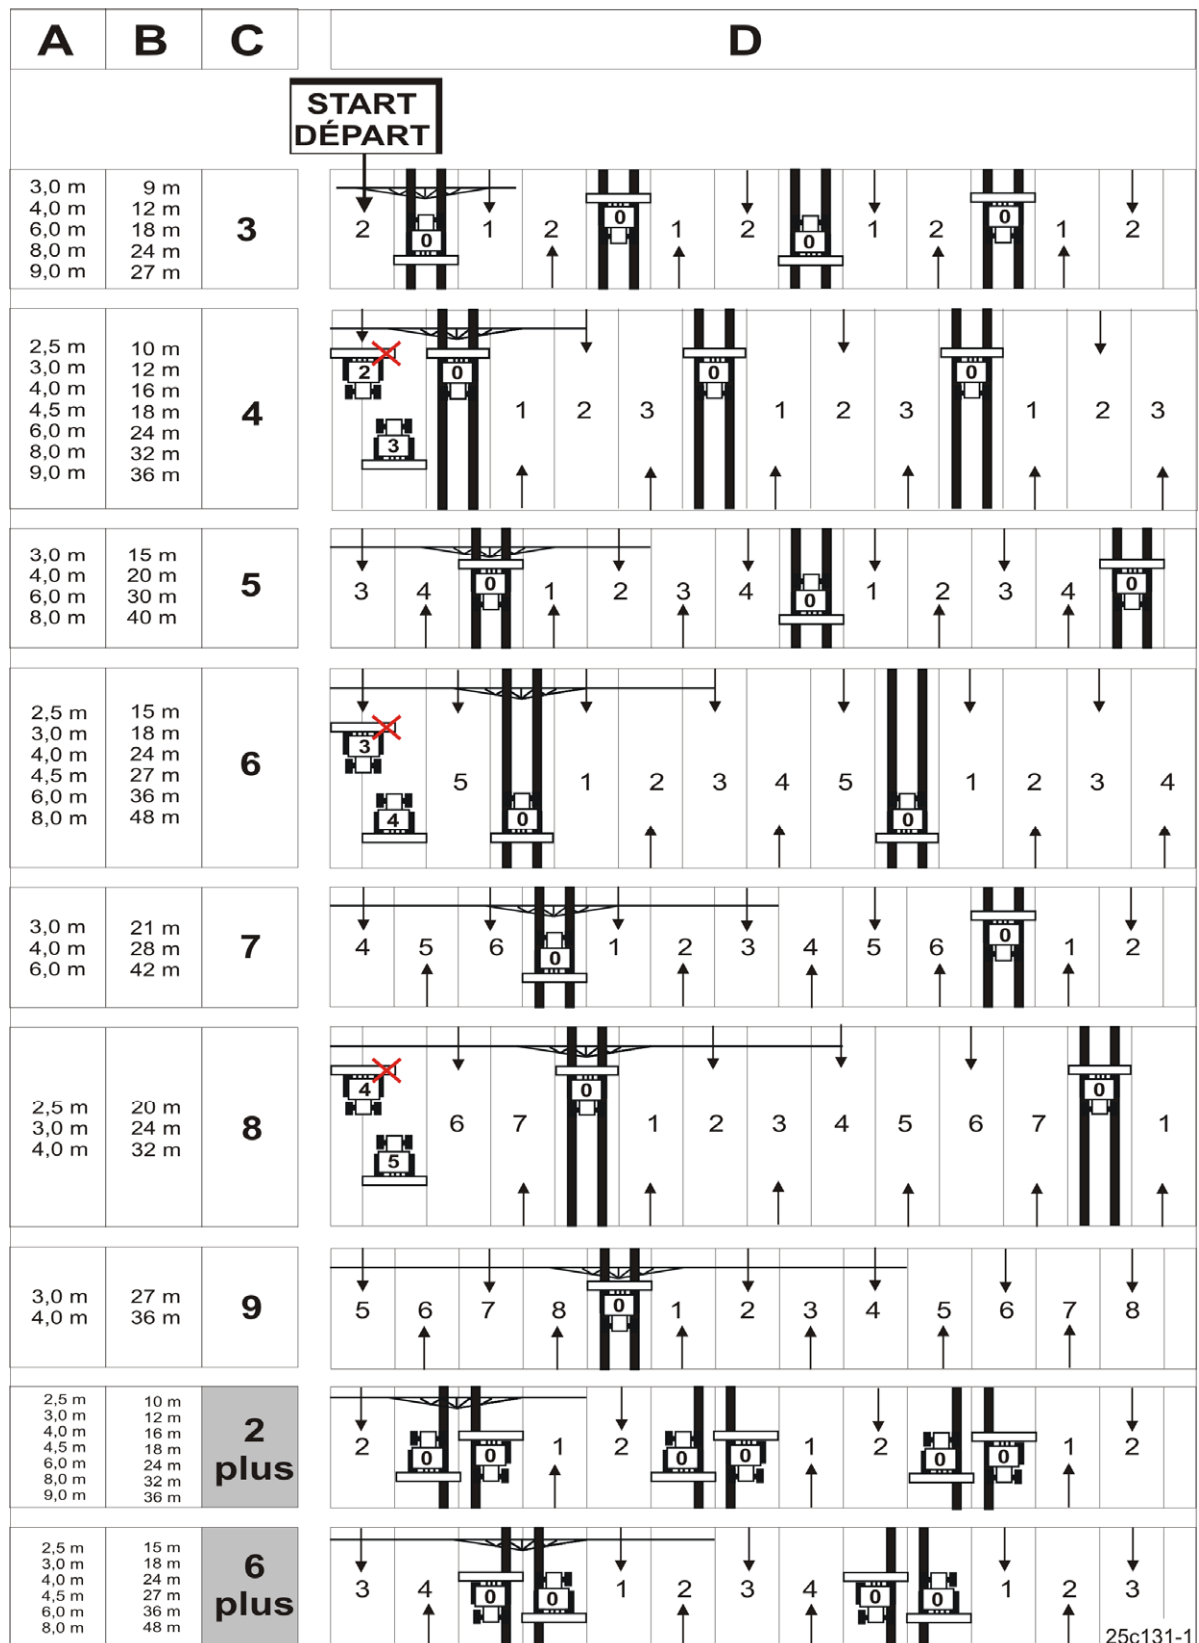

Fig. 98
The creation of tramlines is shown in Figure (Fig. 98) using various examples:
1. In the adjacent table (Fig. 98) look for the following:
Figure (Fig. 98) shows examples for creating tramlines with the tramline rhythm 4, 6 and 8.
Figure (Fig. 98) shows examples of tramline creation with tramline rhythms 2 plus and 6 plus.